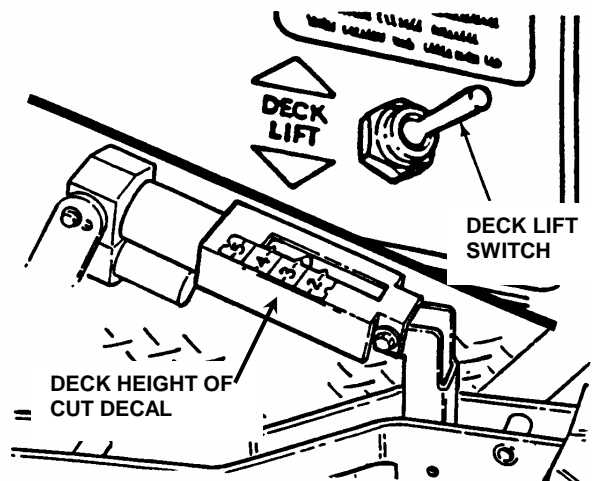

FIGURE 2.9
1. Adjust cutting height as desired to any position, using deck lift switch. When in desired height of cut, release switch. See Figure 2.9. Observe the height of cut decal located on the upper right top side of the deck to place deck at the correct height of cut. See Figure 2.9. **NOTE:** The engine does not have to be running to adjust cutting height, but key switch must be in the "ON" position.